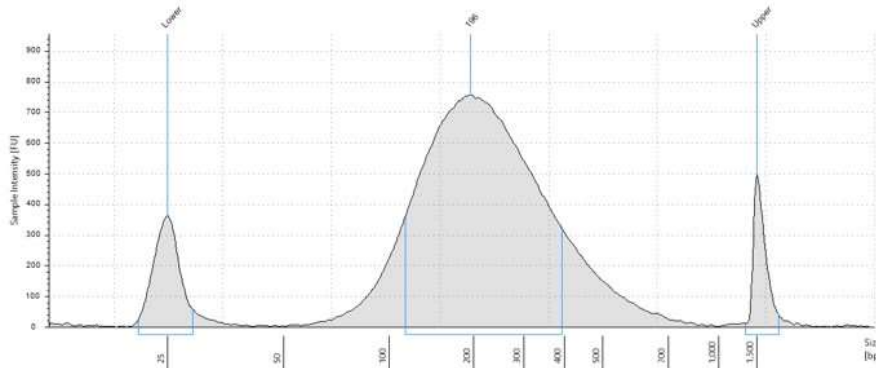

Figure 3: Analysis of fragmented DNA using an Agilent High Sensitivity D1000 ScreenTape assay. Size distribution with a peak between 150 to 250 bp (+/- 10%).
13. The quality and quantity of DNA obtained after fragmentation should be assessed using the High Sensitivity Agilent 2200 TapeStation, Agilent Bioanalyser or similar. An example of a good DNA trace is shown in Figure 3. Ensure a distribution with a peak height of 150-250 bp is achieved. Set up the machine and prepare the tape, samples and ladder following the manufacturer's instructions.